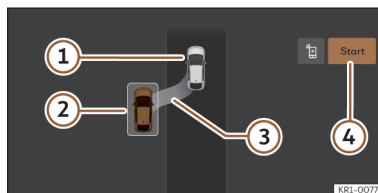
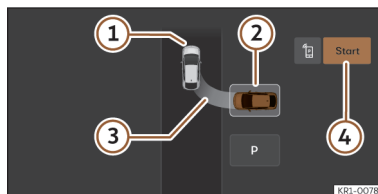

Fig. 137 On the infotainment system display: parallel parking position.
Fig. 138 On the infotainment system display: parking bay parking position.
>>> **Fig. 137**, >>> **Fig. 138**
- ① Your vehicle
- ② Parking space detected
- ③ Indication showing the proposed parking manoeuvre
- ④ Start parking manoeuvre
- Look at the display on the infotainment system's screen to see if the space has been detected as "appropriate" and if the correct position for parking has been reached >>> **Fig. 137**, >>> **Fig. 138**. Stop the vehicle and follow the instructions shown on the infotainment screen.
- Stop the vehicle, press the brake and, after a short pause, press the **Start** ④ button in the infotainment system.